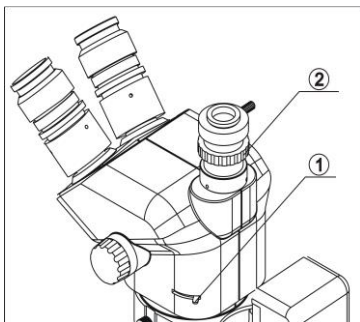

Figure 11
- (1) Turn the light path selection lever ① to "IN". (Fig 11)
- (2) Turn the zoom knob to the Max. magnification and observe through video camera and adjust focusing knob to make image clear.
- (3) Turn the zoom knob to the Mix. Magnification. If the image is not clear, please adjust the adjusting ring ② on video tube to make it clear.
- (4) Turn the zoom knob to Max. magnification again. If the image is still not clear, please repeat the step (2), (3) to make it clear within the whole zoom range.